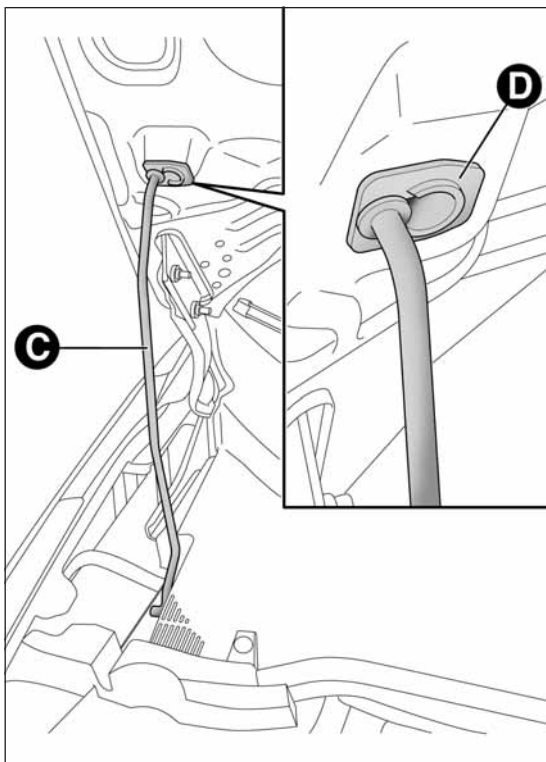

fig. 67
- ❑ lift the bonnet and, at the same time, release bonnet stay C fig. 67 from its locking device. Then, insert the end in housing D, making sure that the stay is engaged in the smallest opening of the retaining clip.
- hold the bonnet up with one hand and with the other remove rod C fig. 67 from housing D and fit it back into its locking device;